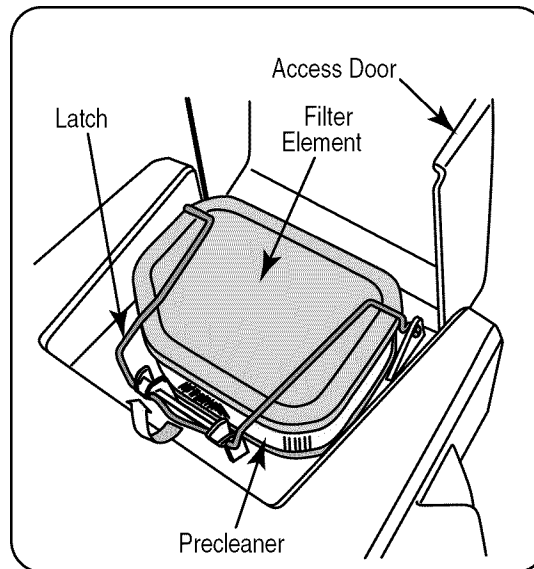

Figure 19
2. Unhook the latch and remove the precleaner from the air filter element. See Figure 19.
6. Pivot the latch over the filter assembly and press the latch downward to rehook. See Figure 19.